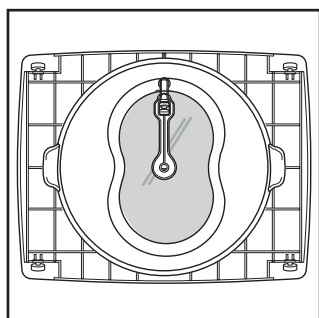

Figure 4
3. Place the glass tray on the rotating ring. Fit the rollers of the shaft between the raised, hollowed groove of the glass tray bottom. The rollers on the rotating ring should fit inside the glass tray bottom ridge.(see figure 4,5)